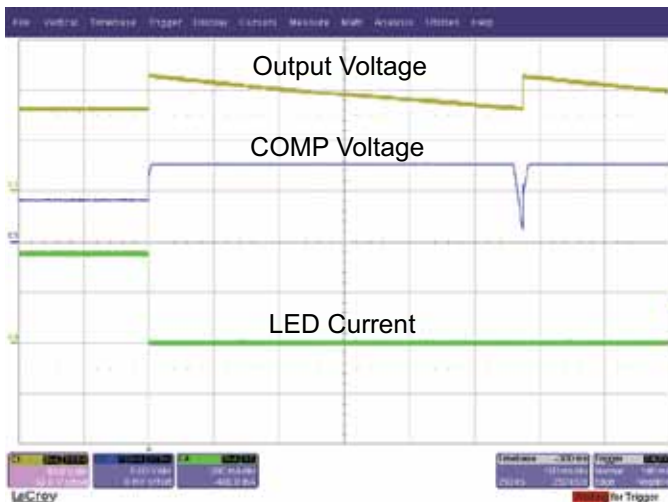

Fig. 6 Open LED Condition
4. Open LED Protection: Figs 6 and 7 show the hiccup-mode over voltage protection. Fig. 6 shows the open LED condition occurs when the LED current goes to zero. At that point, the inductor current charges the output capacitor and the COMP voltage rails to V_{DD} . Once the output voltage reaches the over voltage threshold, the converter shuts down and the output voltage slowly decays because the output capacitor is discharged by the over-voltage sensing resistor network. Once the output voltage falls to 90% of its trip point, the converter tries to restart. Since the fault conditions still persists, the converter shuts down almost immediately. Thus, the HV9912 maintains the output voltage in a band until the LED reconnects.